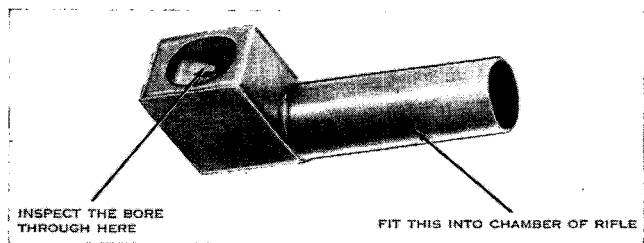

Figure 50. The barrel reflector.
a. The barrel reflector (fig. 50) is a small L-shaped device having a short tube which slips into the chamber of the rifle barrel. It has a mirror which reflects the bore and makes inspection easy.